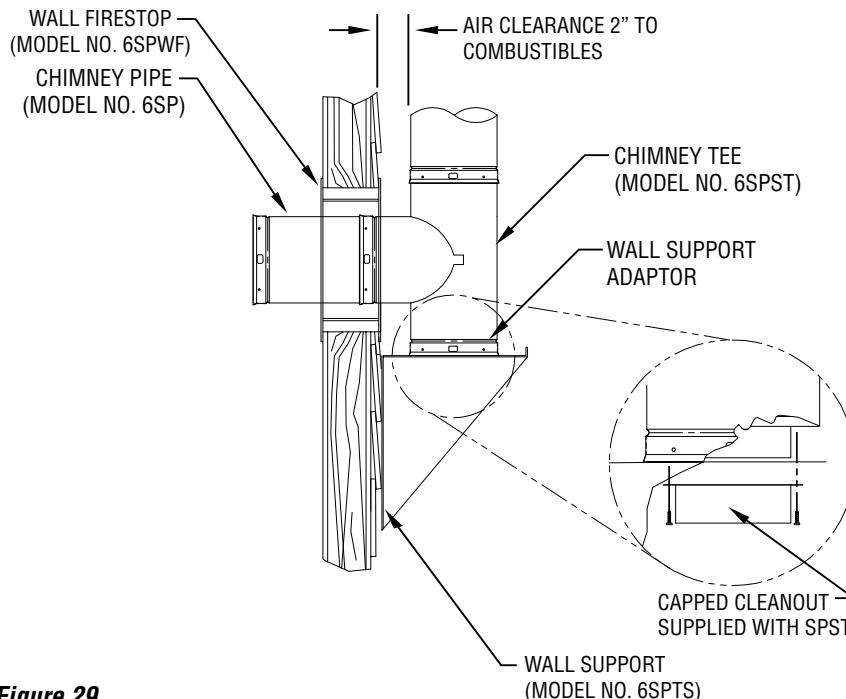

Figure 29
3. A 2-piece wall firestop (6SPWF) must be installed in the framed opening from outside. The stainless portion is first installed from the outside of the opening. Push the remaining half through the opening from the inside until the plate is flush with stud. Use four (4) # 10 x 2-1/2" wood screws to attach opening (see **Figure 29**). Seal the outside plate with RTV sealant or similar.